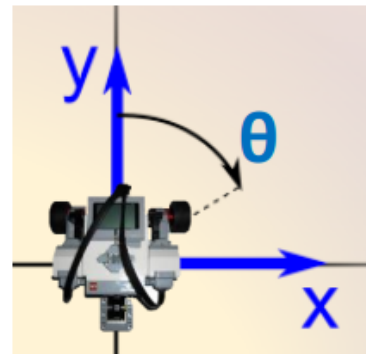
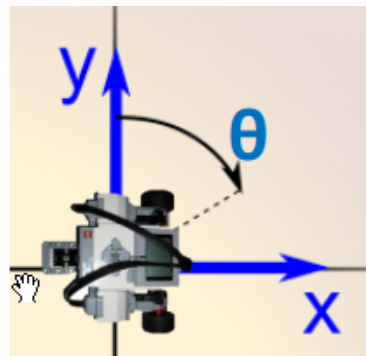

Figure 1. Robot faces north at 0°.
Figure 2. Robot faces east at 90°.
E.g. if the ( $X$ ,  $Y$ ,  $\theta$ ) convention is set as in Figure 1, then:
E.g. if the ( $X$ ,  $Y$ ,  $\theta$ ) convention is set as in Figure 2, then:
### **5. Do I have to follow the same (X, Y, $\theta$ ) convention as in Figure 1 and Figure 2?**